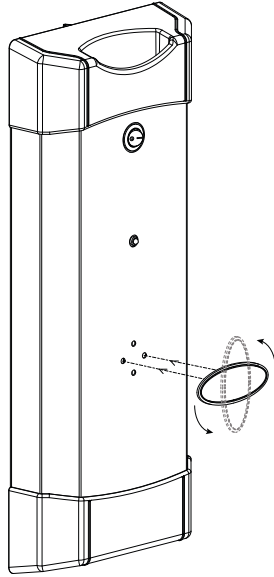

Fig. 17 - Attach Logo
3. Insert the brand logo into the front of the door panel. To insure that the logo is installed in the proper orientation, first attach the door to the purifier and then snap the logo into place with the text in upright position. See Fig. 17.